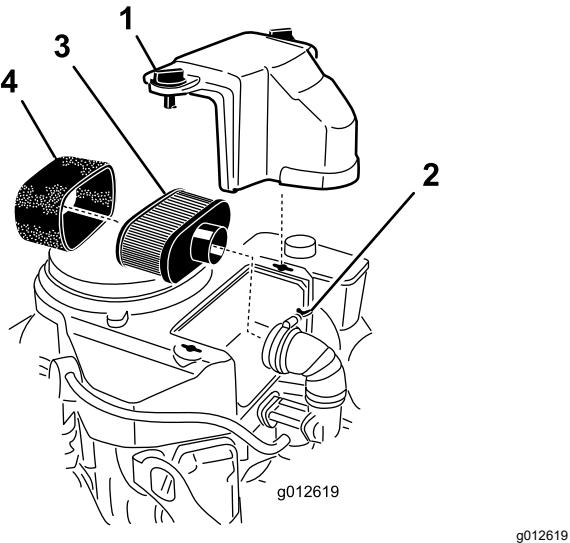

Figure 38
3. Clean around the air cleaner to prevent dirt from getting into the engine and causing damage (Figure 38).
4. Loosen the cover knobs and remove the air-cleaner cover (Figure 38).
5. Loosen the hose clamp and remove the air-cleaner assembly (Figure 38).
6. Carefully pull the foam element off the paper element (Figure 38).
1. Carefully slide the foam element onto the paper element (Figure 38).
2. Place the air-cleaner assembly onto the air-cleaner base or hose and secure it (Figure 38).
3. Place the air-cleaner cover into position and tighten the cover knobs (Figure 38).
1. Clean the paper element by tapping it gently to remove dust. If it is very dirty, replace the paper element (Figure 38).